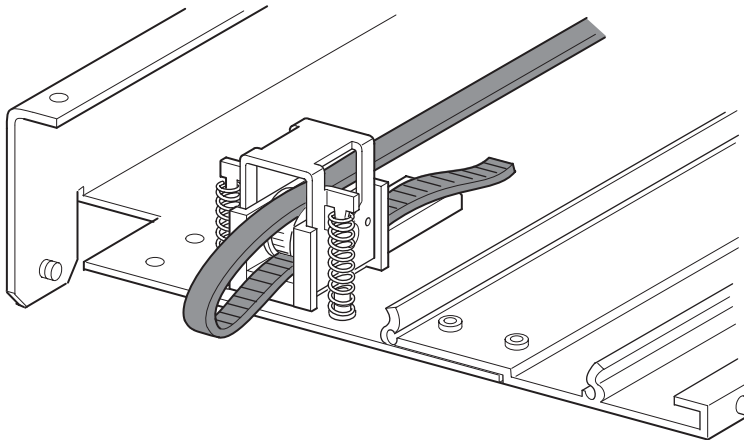
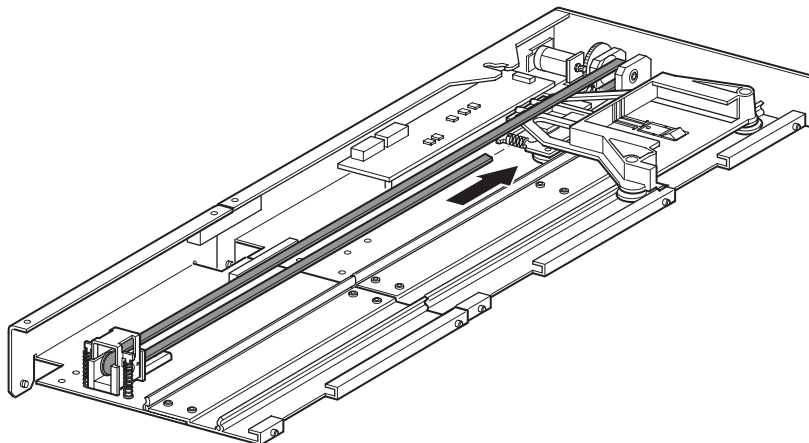

Figure 2-14. Installing the timing belt on the extension
Figure 2-15. Installing the timing belt
4. Thread the timing belt through the top of the belt tensioner ramp and idler pulley and then through the motor drive pulley. Make sure the belt teeth engage both pulleys (see Figure 2-14 and Figure 2-15).